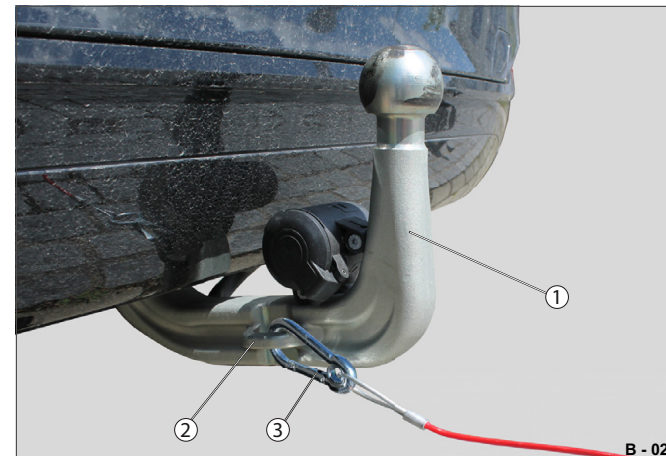

Fig. 22 Example: Safety cable attached with snap hook
- Hook the snap hook (Fig. 22 /3) onto the ring (Fig. 22 / 2).